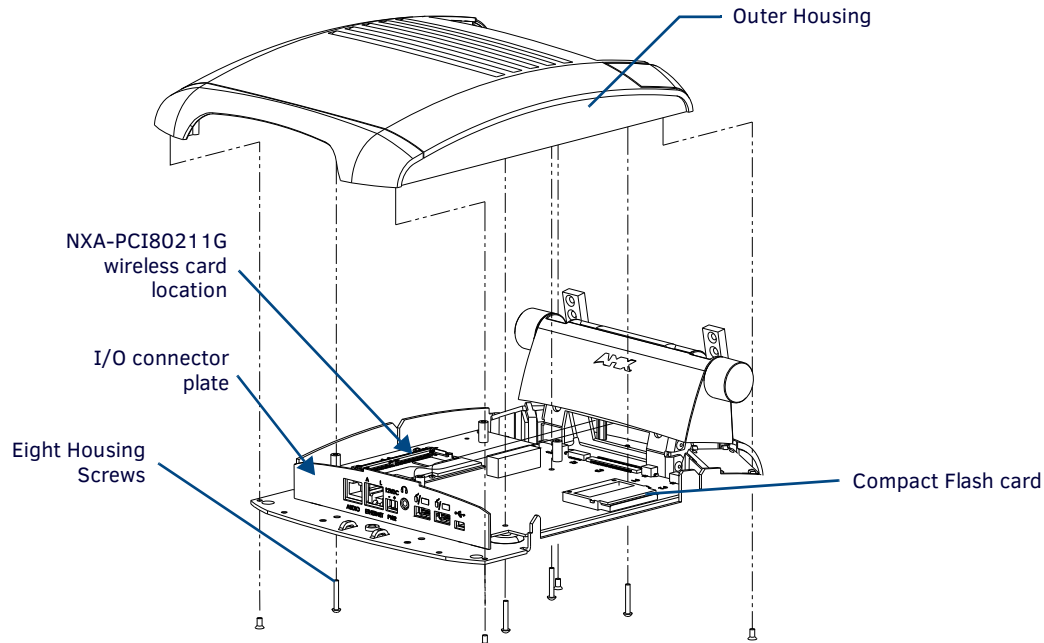
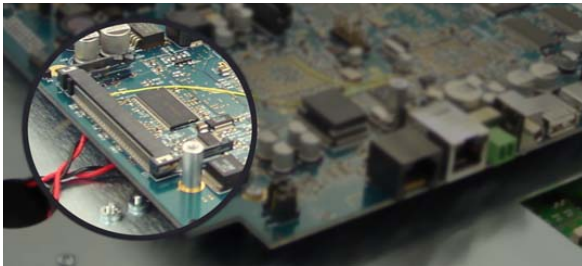

FIG. 16 Location of the NXA-PCI80211G wireless card on the NXT board
FIG. 17 Location of the mini-PCI card connector on main board
2. Locate the mini-PCI card connector on the main board (FIG. 16 and FIG. 17).